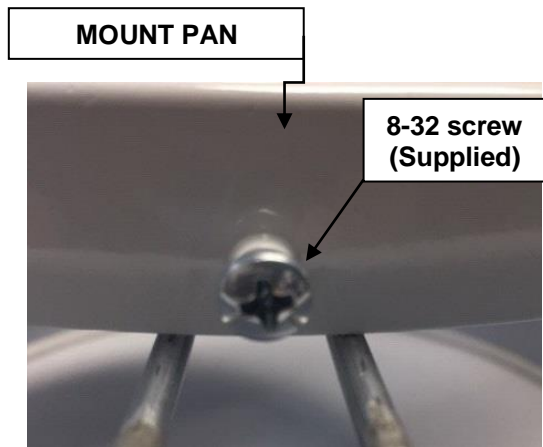

FIG. 1
4. Install the lens by seating it inside of the mnt pan. Make sure the lens wire frame with the 2 bars is centered in a slot before you tighten the lens up (as shown in FIG. 1).